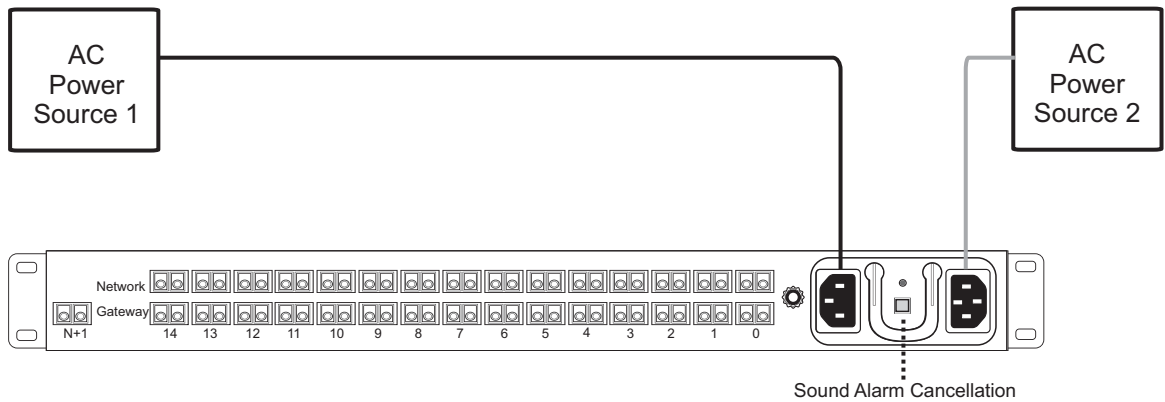

Figure 6.3 AC Power Connection
1. Connect an AC power cable between the AC connector of the 7800 N+1 Patch Panel and an AC supply. See figure 6.3 on page 50.